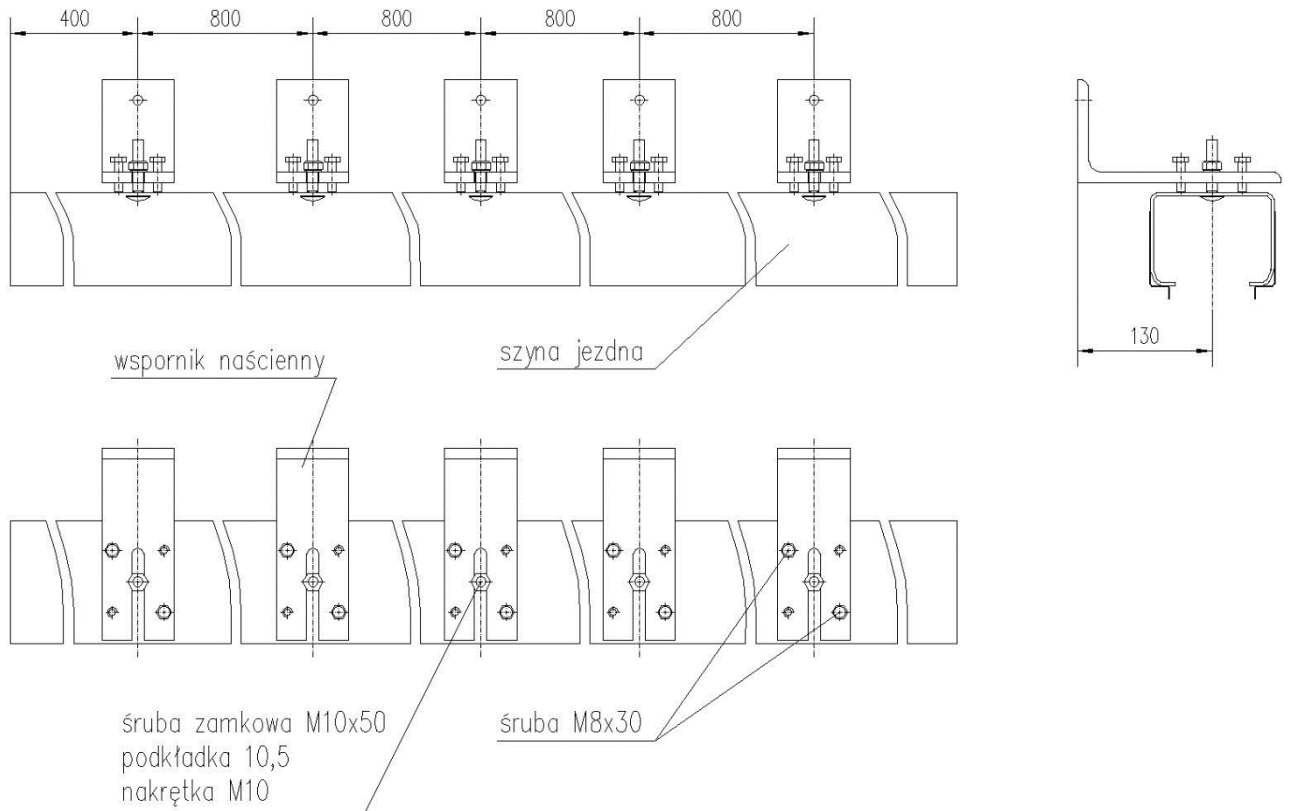

Figure 7: Completing the guide rail length
- Fasten wall-mounted supports to the guide rail, using lock screws M10x50 with nuts M10 and two hexagon bolts M8x30 spaced as in Fig. 7;